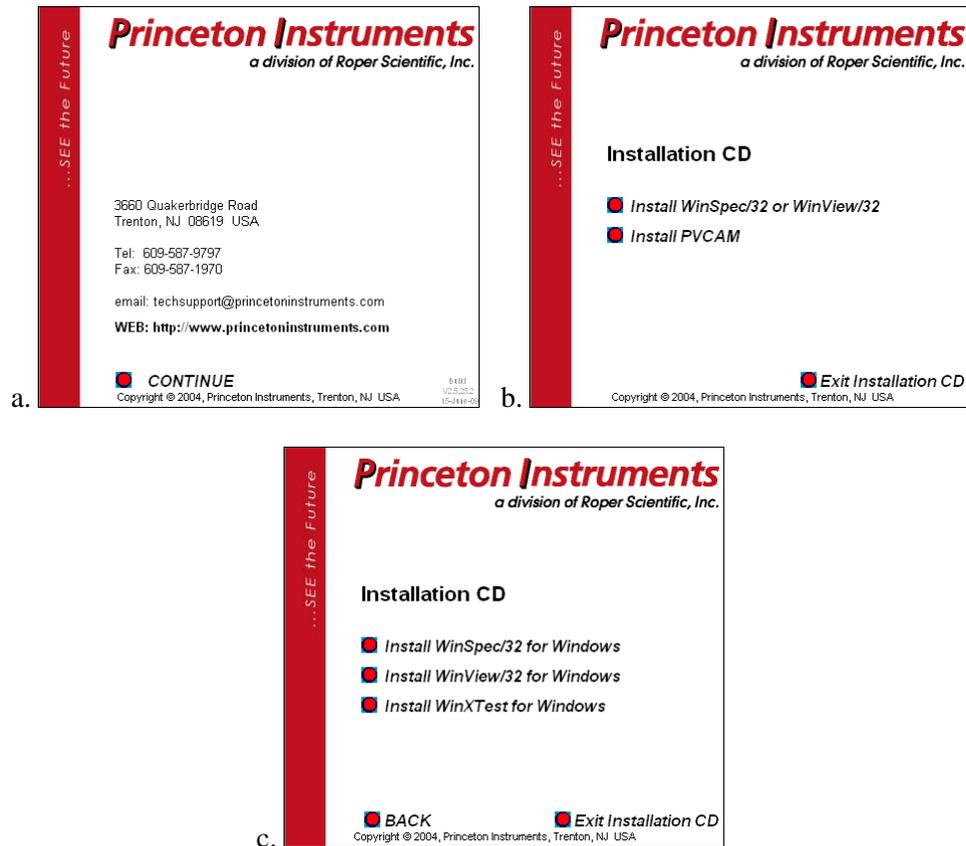

Figure 160. WinSpec, WinView, or WinXTest Selection dialogs
1. Start the installation program, click on **CONTINUE**, click on **Install WinSpec/32 or WinView/32**, and then click on **Install WinView/32 for Windows**. Refer to Figure 160 below.